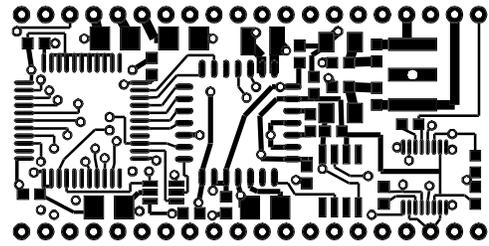

Figure 5. Top Layer (Not to scale).
- The top layer is shown in figure 5.